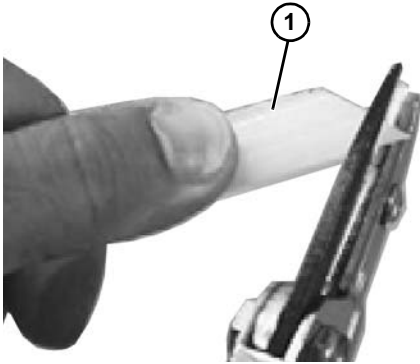

Figure 38
1. Cut both wear strip (**Figure 38, item 1**) ends in a 45° angle. The beginning of a new wear strip (in the direction of travel) must cut back a small angle.